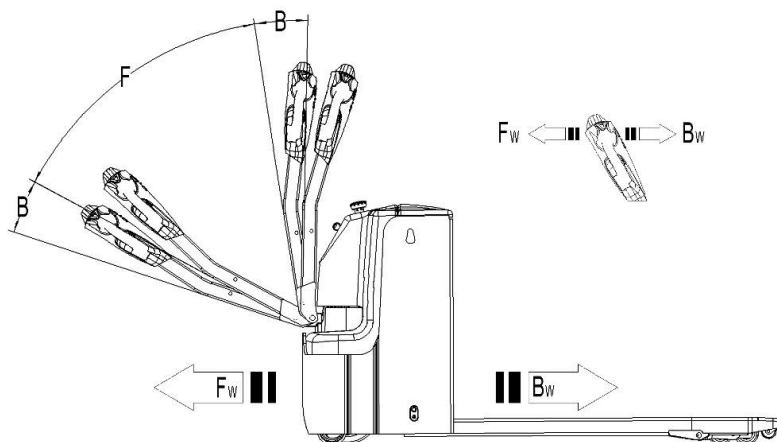

Fig. 11: Operating direction
After starting the truck by turning on the key switch (8), move the tiller to the operating zone ('F', fig.11).
Turn the accelerator button to the desired direction forward 'Fw.' or backwards Bw.'(fig. 11).